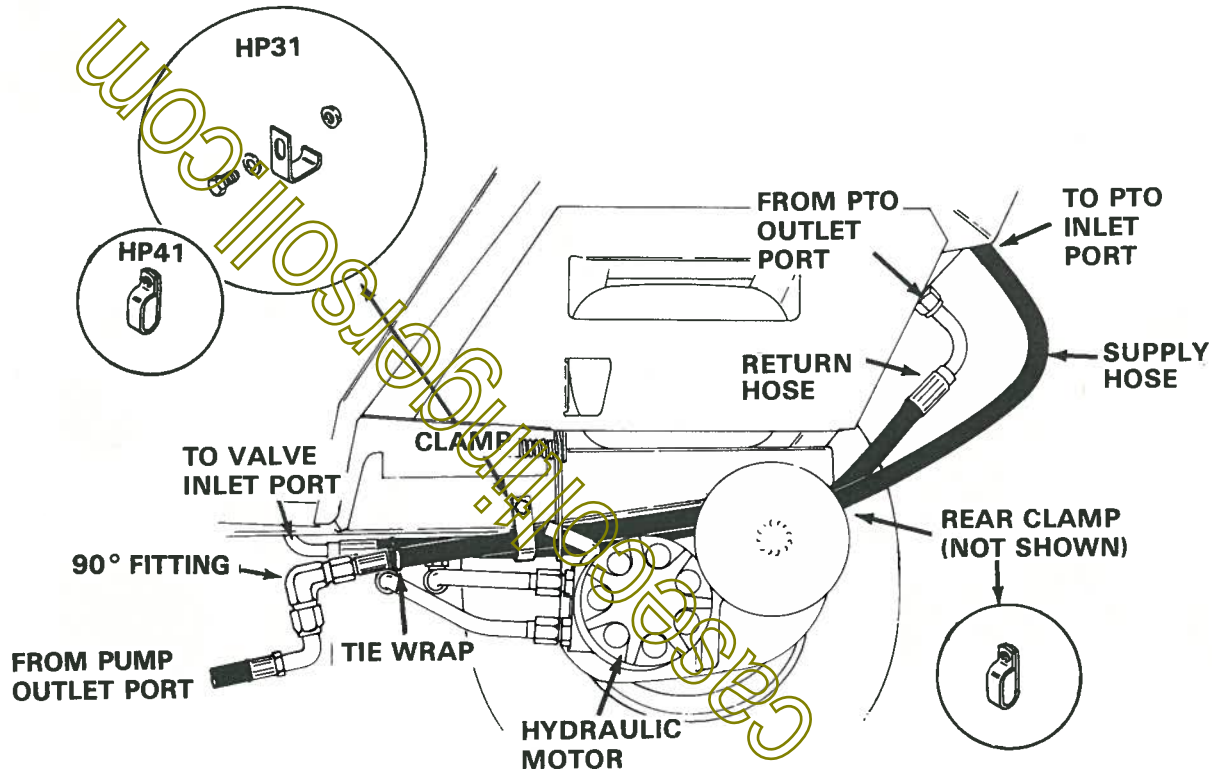

FIGURE 5 - 3000 Series Manual Steering (4000 Series Similar)
2. For 4000 Series Tractors Refer to Figure 5 or 8.